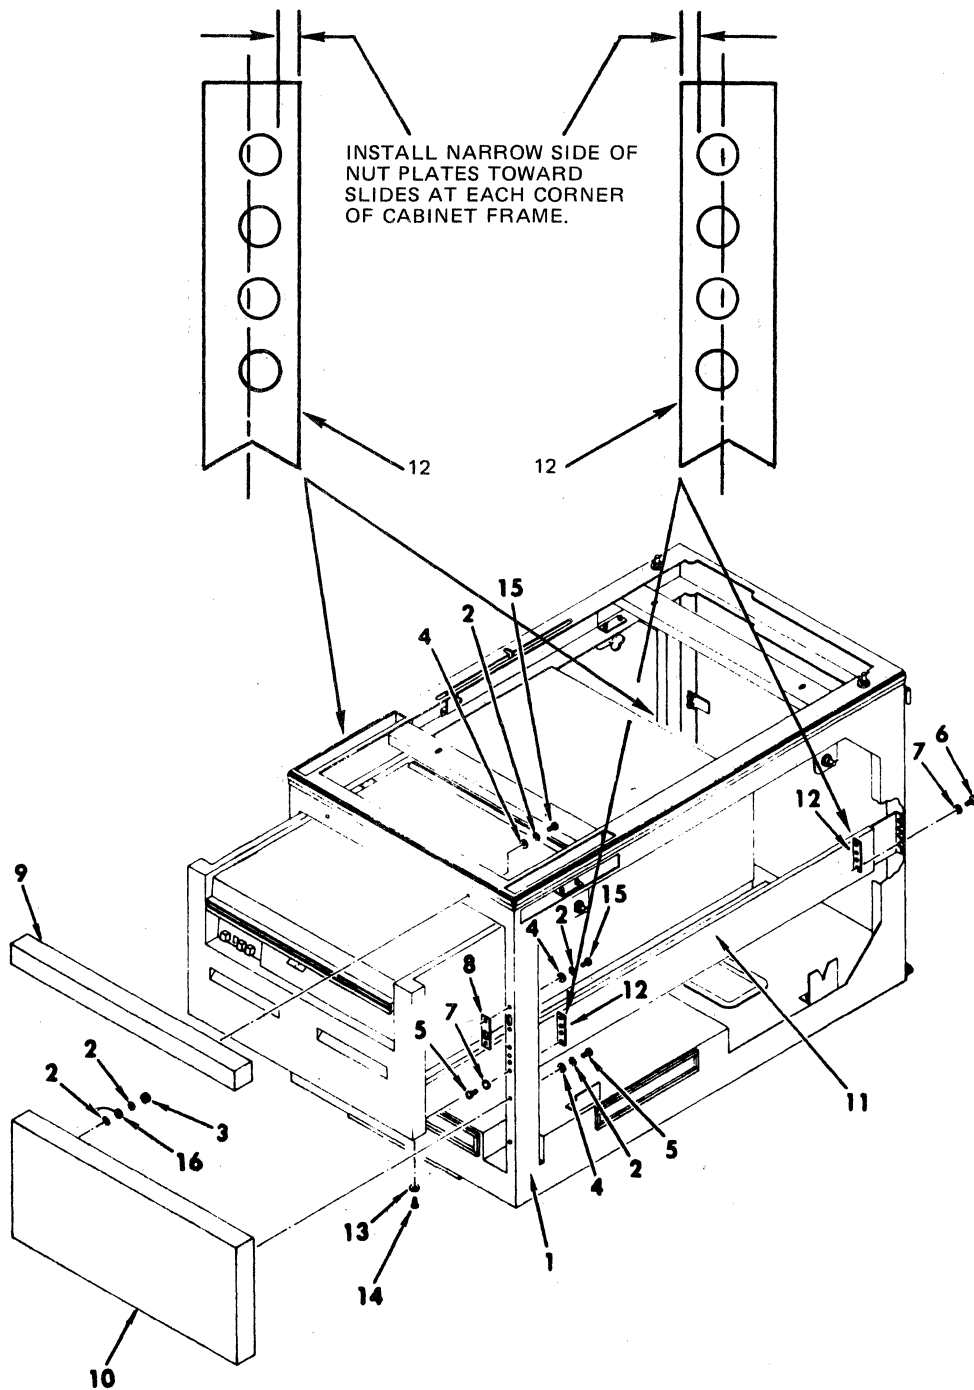

Figure 2-9 Expansion Drawer Assembly
4. Locate two nut plates (see Figure 2-9, item 12) in hardware accessory package supplied with slide kit and see CAUTION below prior to installation.
5. From front of cabinet, loosely install one nut plate on each side of cabinet frame, ensuring that narrow side of nut plate is facing in toward drawer to be installed. Use hardware indicated in Figure 2-9 and Table 2-2.
6. From rear of cabinet, loosely install one nut plate on each side of cabinet frame, ensuring that narrow side of each nut plate is facing in toward drawer to be installed. Use hardware indicated in Figure 2-9 and Table 2-2.
1. Locate latch keepers (Table 2-2, item 8) within supplied hardware.
2. From front of cabinet, loosely install a latch keeper on right-hand and left-handed sides of cabinet frame as shown in Figure 2-9, using hardware supplied (Table 2-2, item 8, and two sets of items 5 and 7).
1. Locate lower front panel supplied with shipment of expansion drawer (see Table 2-2, item 10, and Figure 2-9).
3. From front of cabinet, place lower front panel at base of cabinet with ground stud to left and air circulating cut-out facing up and loosely fasten panel to cabinet frame using supplied hardware (Table 2-2, item 10, and four sets of items 2, 4, and 15), as shown in Figure 2-9.
1. Locate upper front panel supplied with shipment of expansion drawer (see Table 2-2, item 9, and Figure 2-9).
2. From front of cabinet, place upper front panel into highest position (next to upper unit), as shown in Figure 2-9, and loosely fasten panel to cabinet frame, using supplied hardware (Table 2-2, item 9, and two sets of items 4, 2, and 15).
18. Align both latch keepers (see Figure 2-9, item 8), on both sides of cabinet, with drawer catches when drawer is in closed position and tighten hardware securing latch keepers.